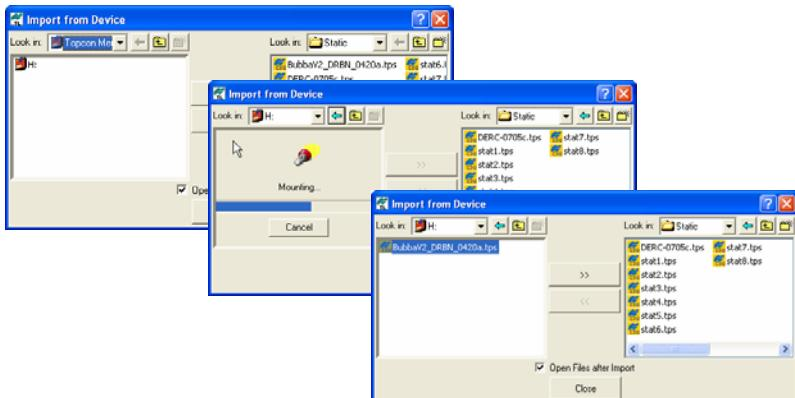

Figure 2-40. Import From Memory Card
2. Click **Memory Card** in the ***Import from Device*** dialog box. If the SD card was formatted in the receiver's file system, the disk, which designates the Topcon Memory Card, will be displayed in red (Figure 2-40).